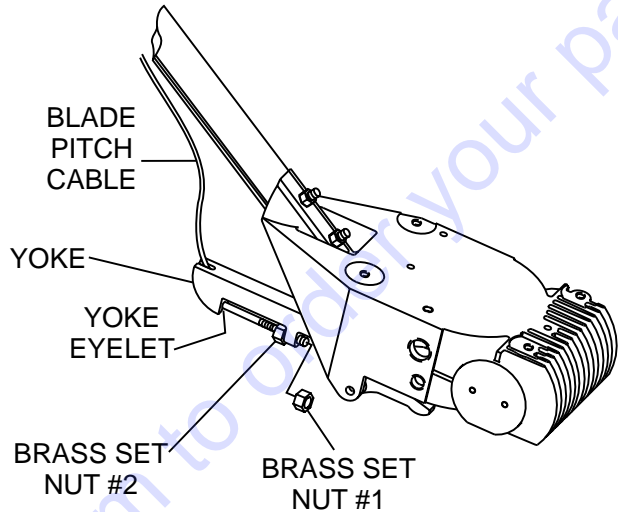

Figure 10. Cable Yoke Attachment
4. Insert the cable end through the yoke eyelet (Figure 10). Tighten brass set nut #1 by hand to remove all the slack from the cable.